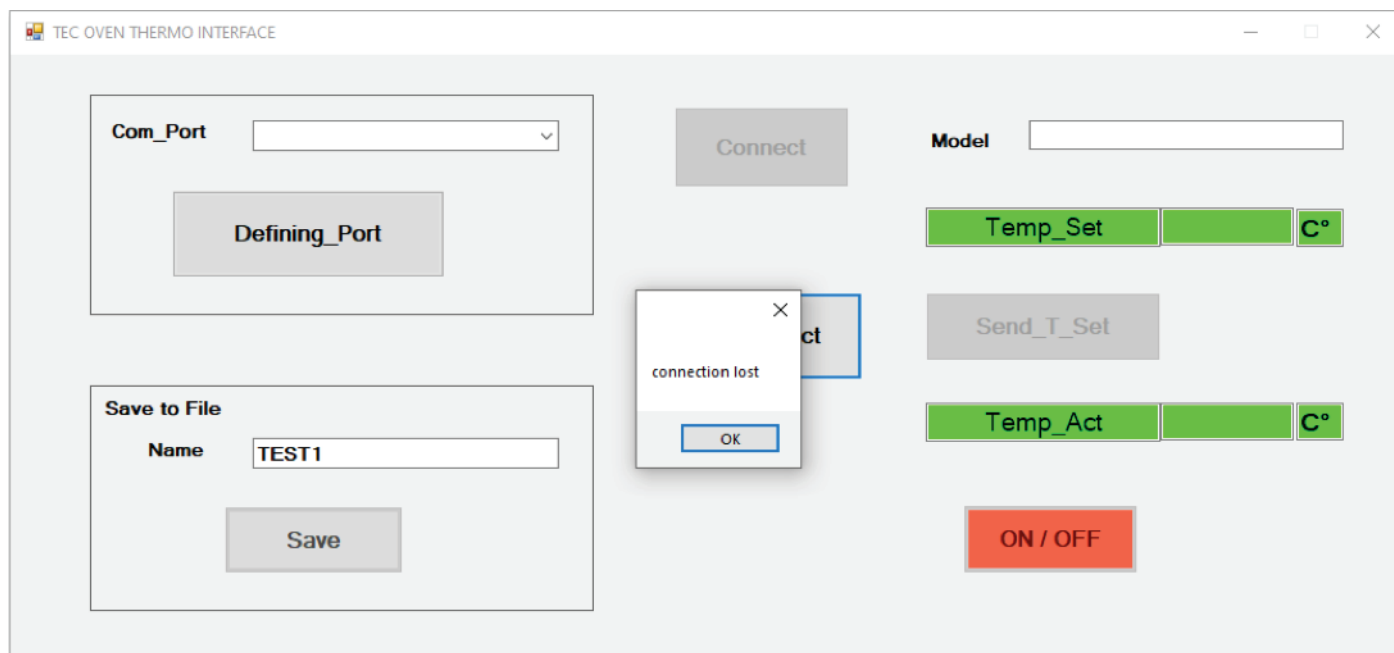

FIGURE 8. User Interface Software
- **'Disconnect'**: the button is used to switch to **STANDALONE** mode (if there is no need to use the **TEC OVEN INTERFACE** further), wherein a **'connection lost'** message appears.(figure 8)